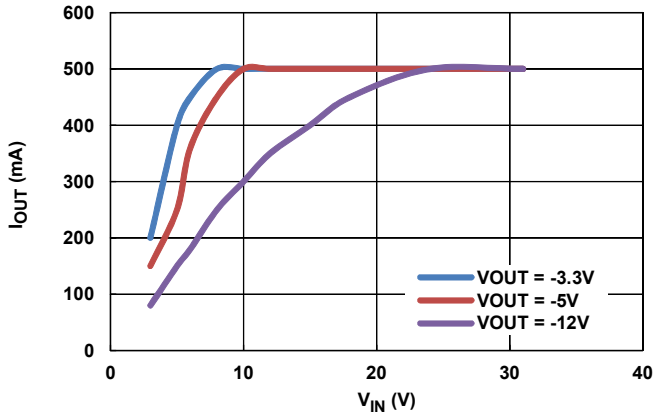

FIGURE 7. MAXIMUM  $I_{OUT}$  VS  $V_{IN}$ ,  $-V_{OUT}$
- Continuous output current up to 500mA (See Figure 7)
The curves in Figure 7 indicate the maximum output current the converter can deliver as a function of the input voltage and the selected output voltage configuration.